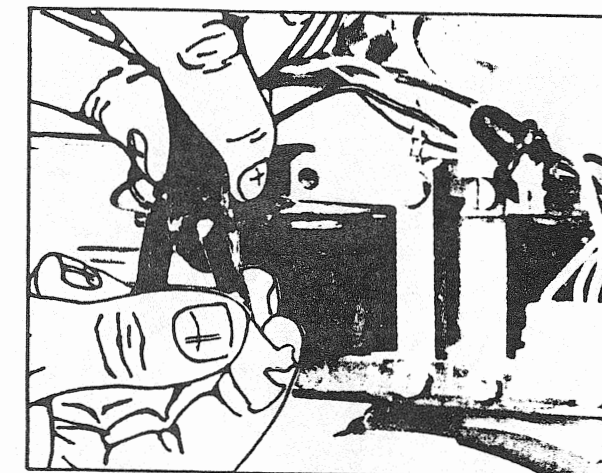

FIGURE 11
- Clean the wire terminals of all sealant (fig. 11).